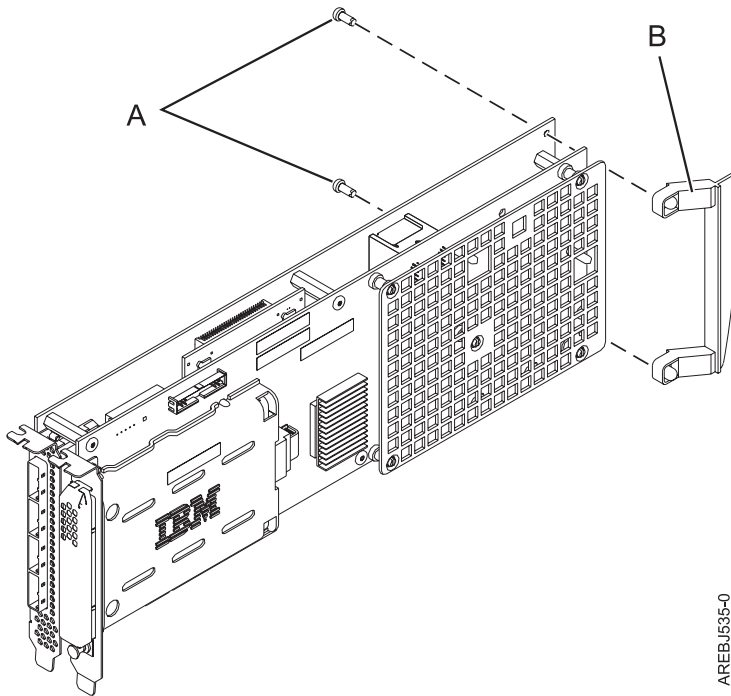

Figure 46. Cassette adapter handle attachment
- a. Remove the adapter handle **B** as shown in Figure 46.